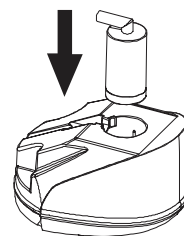

Fig.5
4. Replace filter back into water tank. When move, please hold the water tank by two hands. (Fig.5)